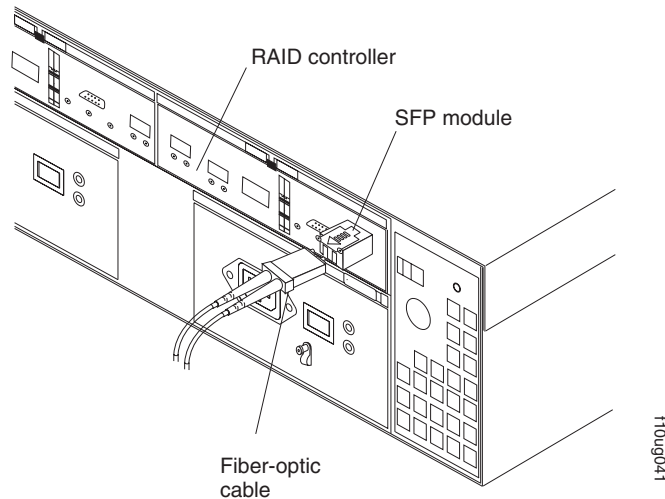

Figure 33. Connecting cables to the installed SFP
2. Connect the fiber-optic cable to the installed SFP, as shown in Figure 33.